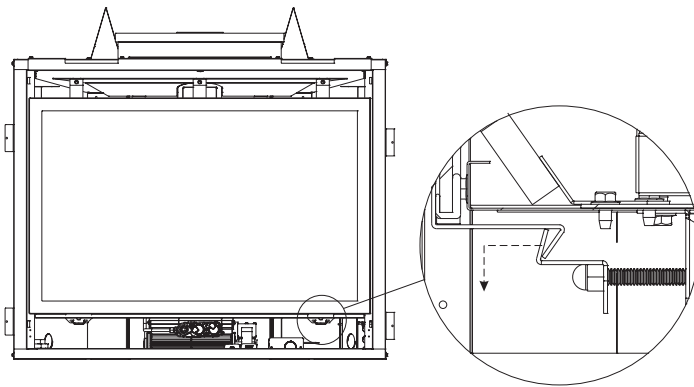

Figure 96
2. Disengage the two glass latches. Pull out and down on latch and then release. **See Figure 96.**